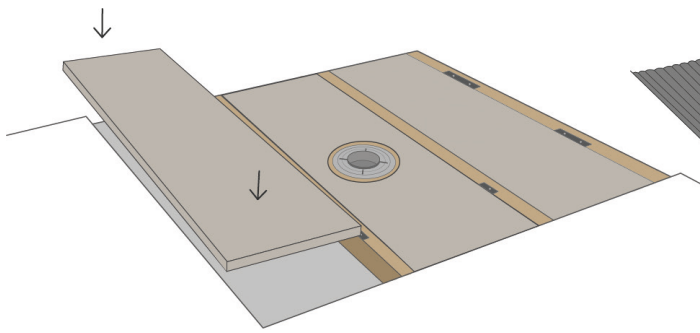

Fig. 11
1. Once you are satisfied with the drainage, replace the plywood section around the Orbry Round Base Drain and fix all floor infills in position (Fig.11).